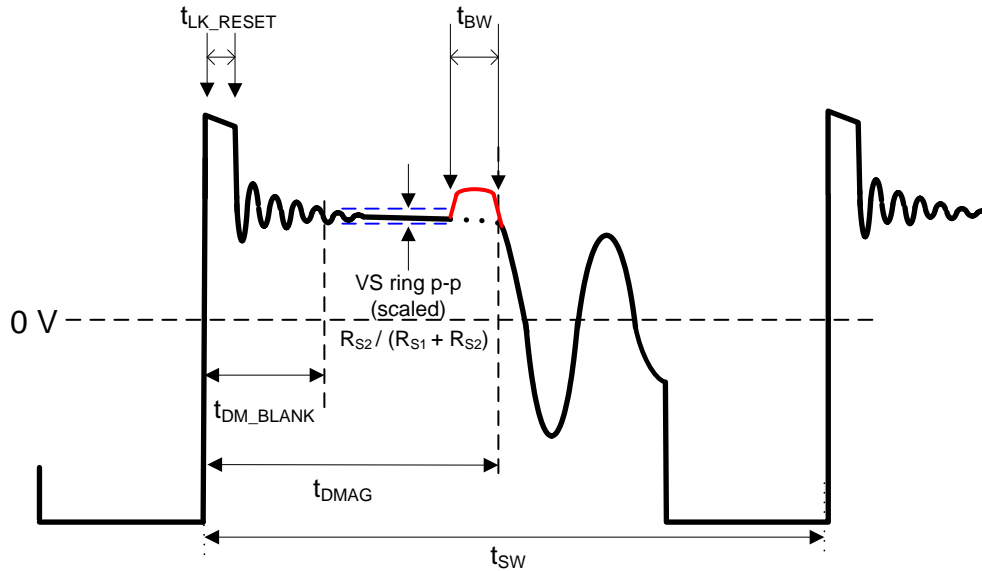

Figure 25. Auxiliary Waveform Details
Special design considerations need to be observed when using synchronous rectifiers (SR) with the UCC28704. Figure 14 depicts the de-mag time partition. When using UCC28704 with SR, a portion of the de-mag time needs to be reserved for  $t_{BW}$ , as shown in Figure 25, which is the body diode conduction time when SR MOSFET turns off before the de-mag time ends.